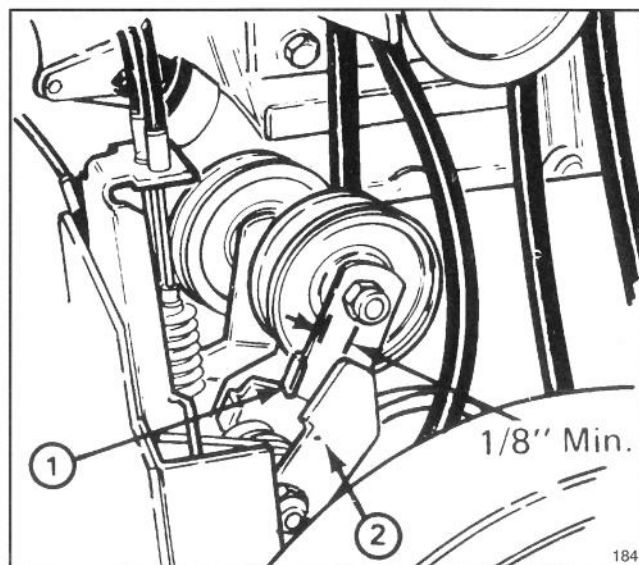

Figure 31
- 8. Check impeller brake arm clearance by releasing the auger/impeller lever. With the lever released, there should be more than 1/8" clearance between tab on impeller idler arm and brake arm (Fig. 31). **If there is less than 1/8" clearance, belt must be replaced.**